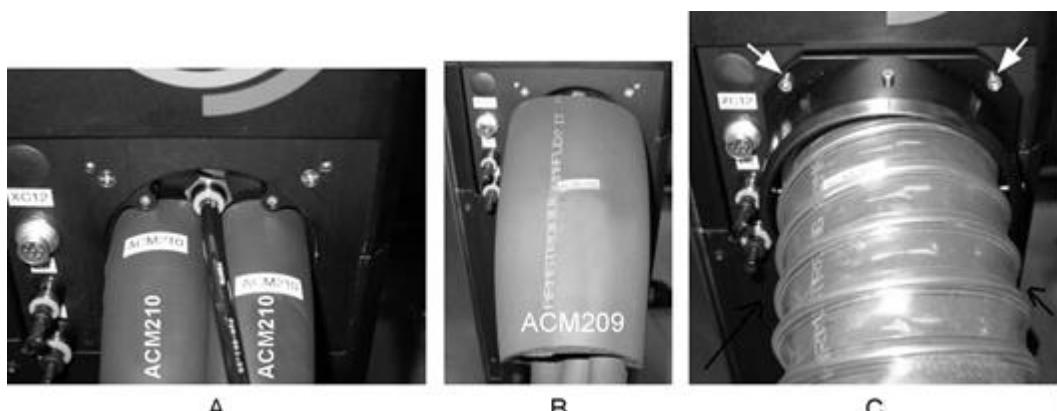

Fig 4.10 Installing the isolation material and protective tubing
- 2 Cover the connections with isolating material ACM 210. See A in Fig 4.10.
- 3 Cover all tubes with isolating material ACM 209. See B in Fig 4.10.
- 4 Fix the protective tube AC 051 to the adapter plate using four screws of size M4x20. See C in Fig 4.10.